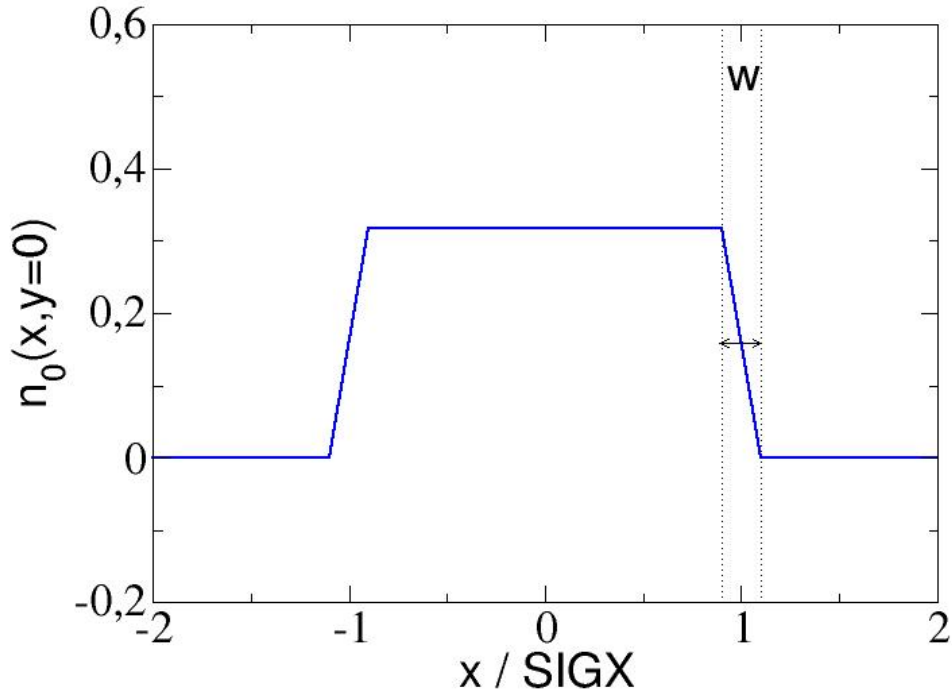

Figure 11.2: Trapezoidal shape of radial density for beam-beam lens.
- **BBSHAPE=2**: trapezoidal shape (see fig.11.2). **SIGX**, **SIGY** are the half widths of density profile, i.e. distance from the centre to half edge region with linear decrease of density in horizontal and vertical directions. Only circular opposite beam is possible, i.e. in the calculations  $SIGX' = SIGY' = (SIGX + SIGY) / 2$  is used, if **SIGX** and **SIGY** have different values. **WIDTH** denotes the full width of the edge region in units of **SIGX** (or  $SIGX'$  and  $SIGY'$ , respectively, if **SIGX** and **SIGY** are not equal), i.e. if  $WIDTH = 0.01$  and  $SIGX = 5\text{mm}$ , the edge region has a full width of 0.05 mm. Condition:  $WIDTH < 2.0$ .